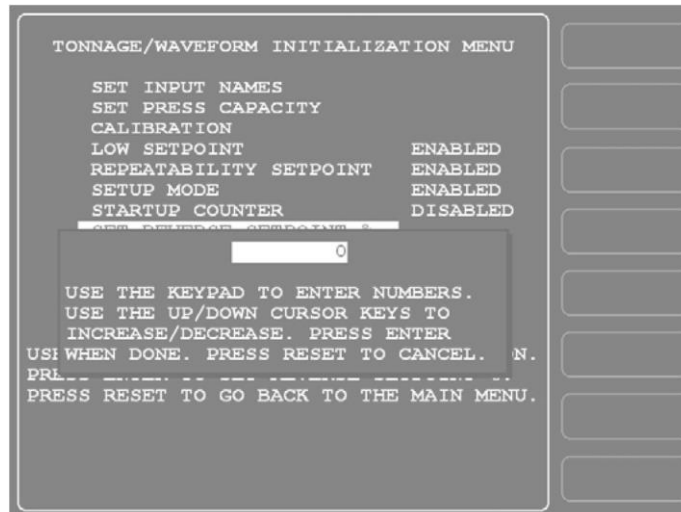

Figure 3-8. Numeric Entry Window Superimposed on Tonnage Monitor Initialization Menu
1. Select “SET REVERSE SETPOINT %.” When the Numeric Entry window (see Figure 3-8) displays, key in the desired percentage value, following the directions in the window.